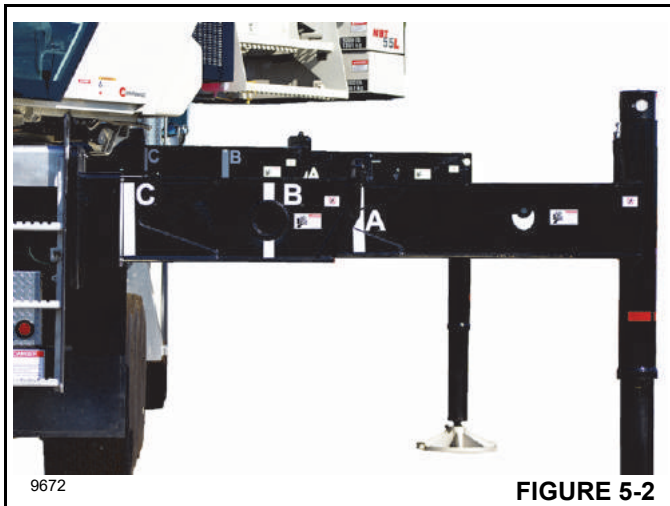

FIGURE 5-2
1. Fully extend and set the outriggers. Refer to (Figure 5-2).